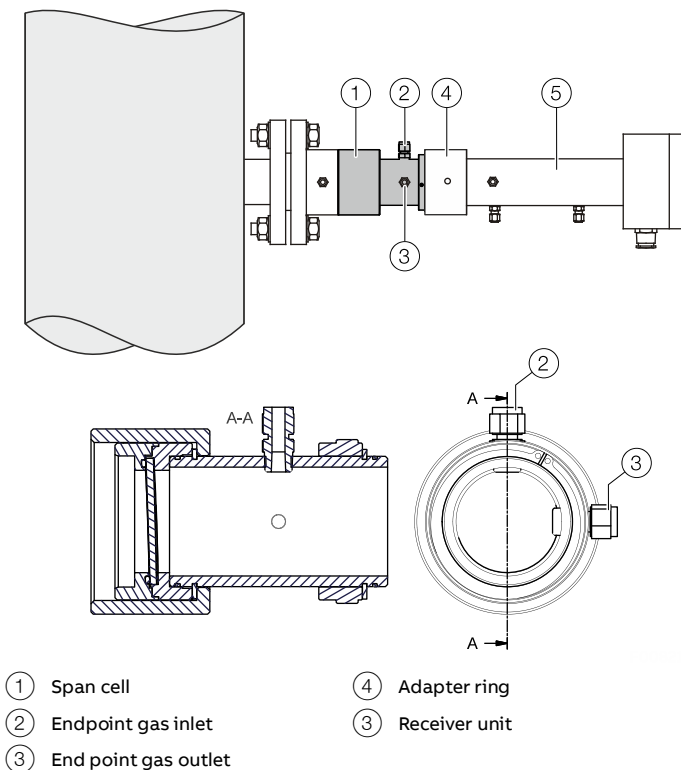

Figure 54: Span cell for corrosive gases
- For corrosive gases a dedicated span cell (Figure 54, accessory available from ABB) mounted between receiver unit and process is used.